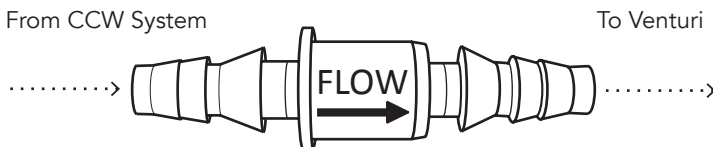

Figure 9: 1/4" One-Way Check Valve
3. Install 1/4-inch one-way check valve (supplied) in-between the Clear Comfort system and the Hartford loop to eliminate any potential water back-flow. See Figure 9 below.